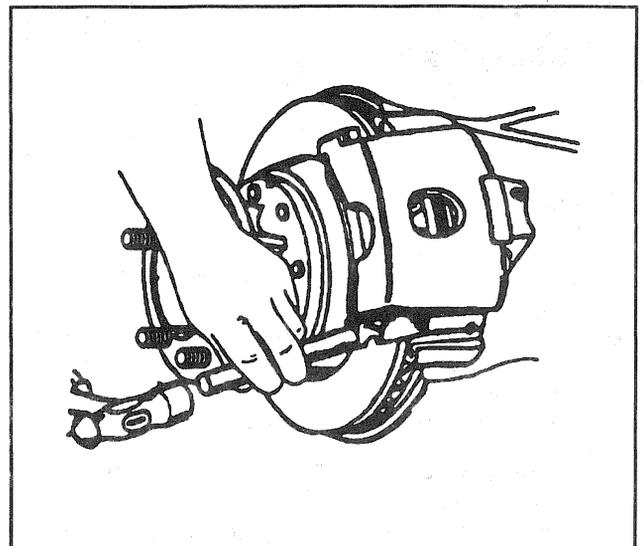

Figure 20—Installing the Caliper Support Key
- 3. Spring (4) and support key (3).
- Use a brass punch and hammer to drive the support key in place (Figure 20).